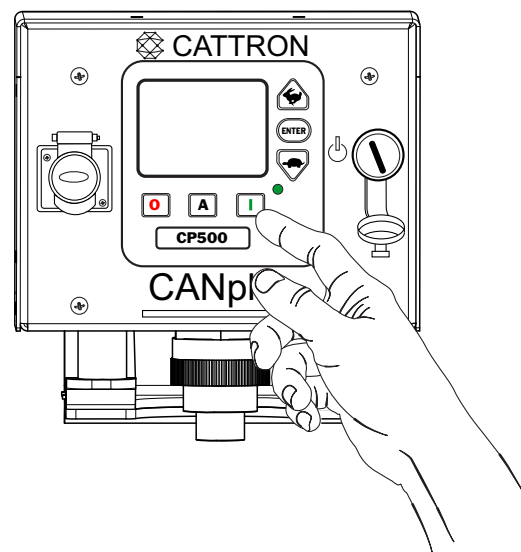

Figure 13. Control Panel Start Button
3. Next, press the **START** button on the control box and listen for the engine to start. See Figure 13.